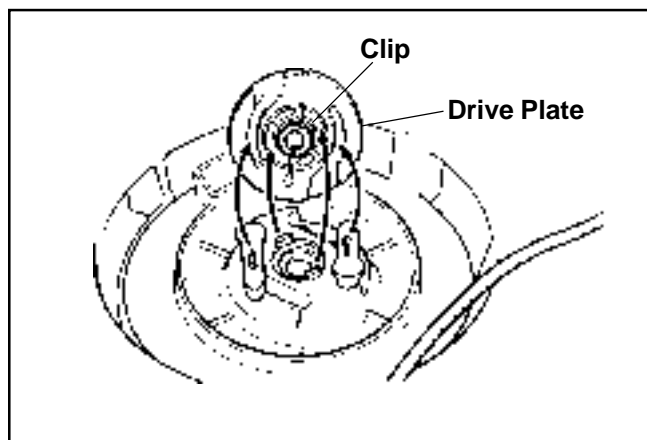

Figure 7-7. Drive Plate and Pawl Details.
6. Position the drive plate over the pawls, aligning the actuating slots in the plate with the raised sections on each drive pawl. Torque the center screw to **5-6 N·m (44-53 in. lbs.)**. Rotate the pulley by hand and check operation. See Figure 7-7.